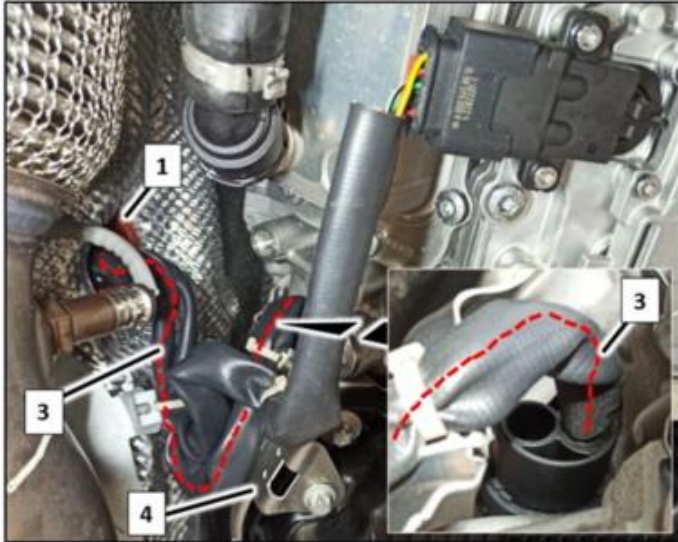

Figure 6
i If the electrical power supply line (3, Figures 6 and 7) (cable cross section 10 mm²) is damaged, replace electrical supply line (3, Figures 6 and 7):
2. Remove protective metal sheet (4, Figure 6).
3. Disconnect electrical power supply line (3, figure 6) from electrical connector.
5. Remove electrical power supply line (3, Figures 6 and 7) with grommet (1, Figures 6 and 7).
6. Replace electrical power supply line (3, Figures 6 and 7).